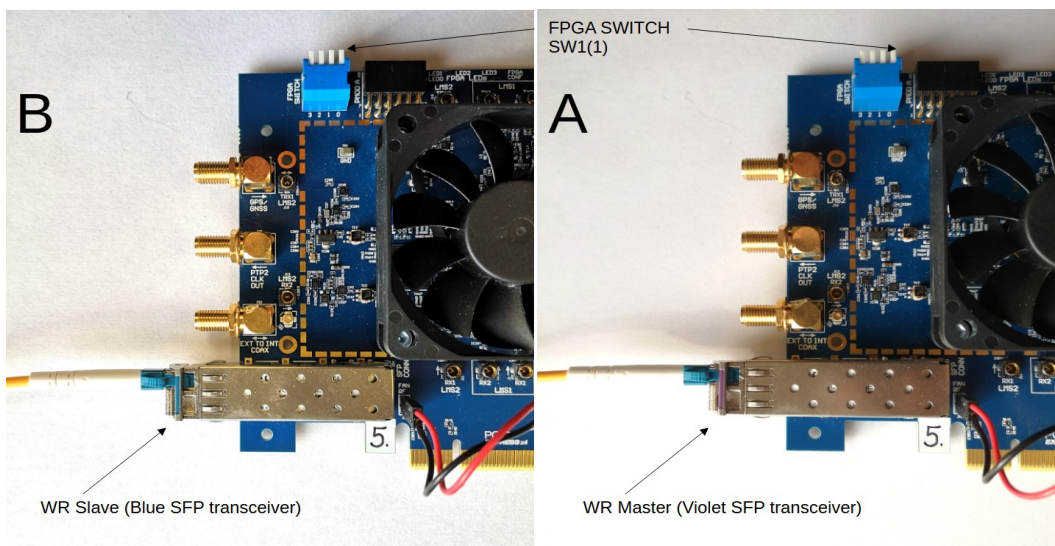

Figure 1: Hardware setup
- Insert SFP transceivers into J24 SFP cage. SFP transceiver marked with **violet** color should be inserted into master board A, transceiver with **blue** color should be inserted into slave board B. See Figure 1.
- Connect master and slave boards with fiber optic patch cable. See Figure 1
- Make sure that FPGA SWITCH SW1(1) is set into OFF position (See Figure 1), otherwise WR core will not start.